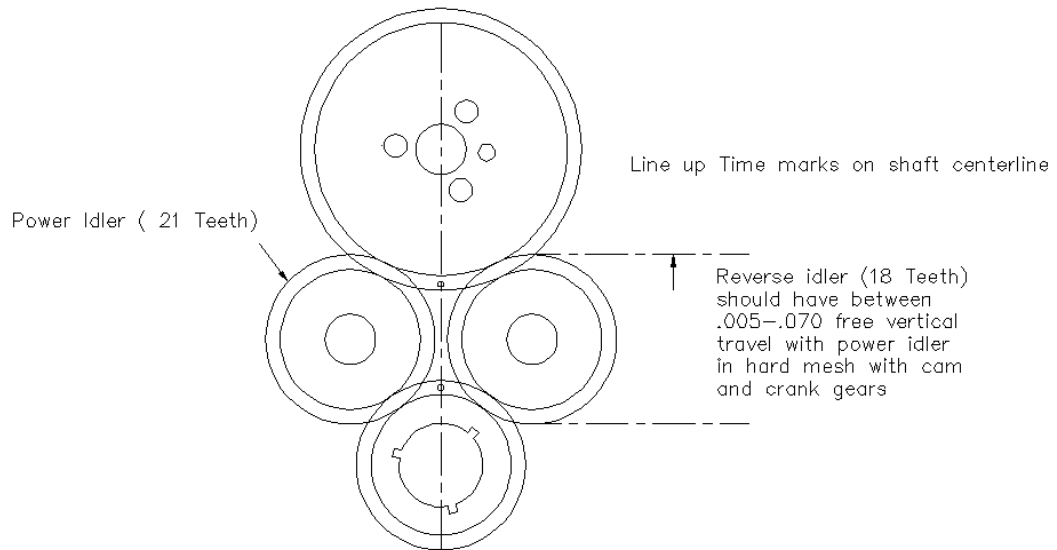

Figure 1
3. The engine is timed with the timing marks facing one another just as you would with a chain and sprocket drive. (Refer to Figure 1)
4. Align the timing marks as shown in Figure 1.